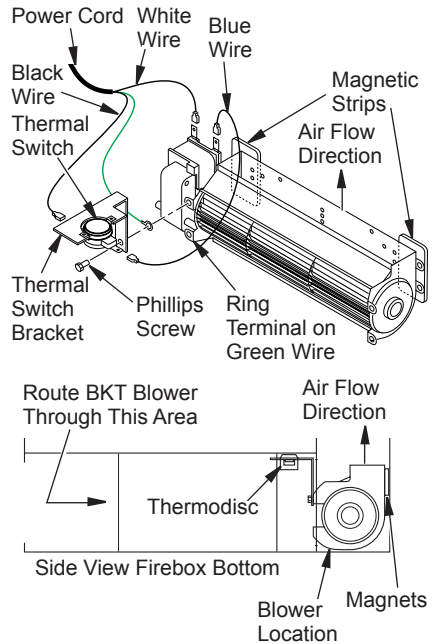

Figure 29 - Blower Model BKT
1. Place the green ground wire with ring terminal between the bottom hole on the thermal switch bracket and the top ear hole on the blower assembly. Insert the phillips screw into all three pieces and tighten securely (see Figure 29, page 19).
3. Place the blower against the lower rear wall of the firebox outer wrapper with the exhaust port directed upward and the thermodisc positioned up near the fireplace bottom. The thermodisc must be oriented near the fireplace bottom as shown in Figure 29, in order to sense temperature and properly operate. The blower will be held in position against the back wall by the magnets incorporated onto the blower housing (see Figure 29).